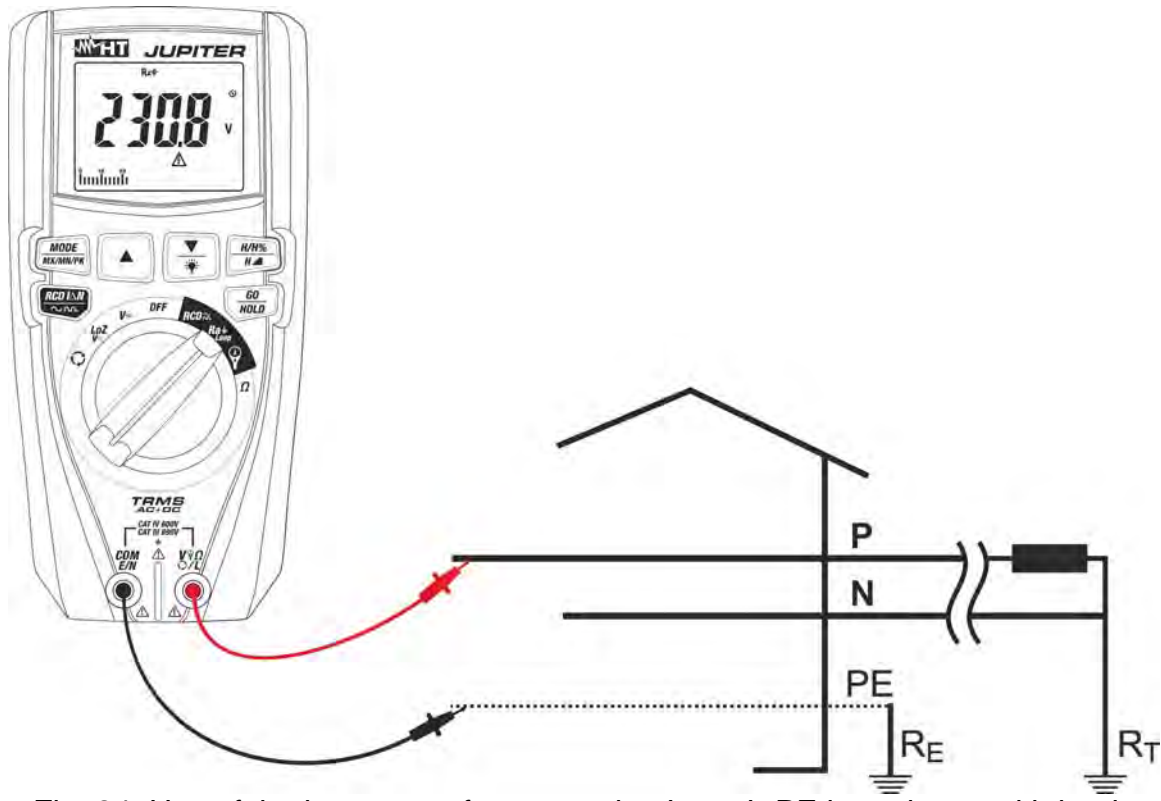

Fig. 24: Use of the instrument for measuring Loop L-PE impedance with leads
6. **For Loop L-PE measurements**, in case measuring leads are used, insert the red conductor into input terminal  $V_{\Omega} \text{ L}$  and the black conductor into input terminal **COM/E/N** and connect the instrument to the system to be tested (see Fig. 24). The value of voltage Phase-Earth is shown on the display